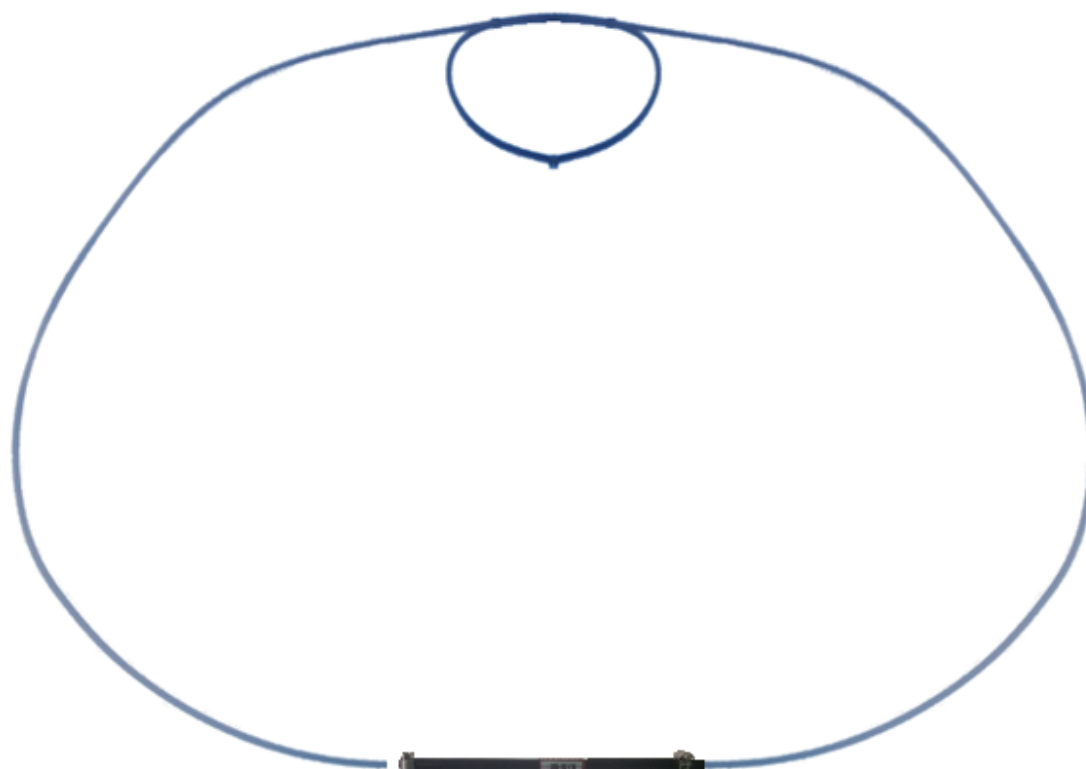

Figure 1-1 RML Antenna with VIC at base
The RML is represented in Figure 1-1 and shows the location of the VIC. Physically the RML antenna consists of two sections of LMR400. The total weight of the core system is 2.00 pounds. The antenna can be transported in an optional field bag. Deployment of the core RML antenna is accomplished in approximately 2 minutes.
- d. Locate the top Inner Loop and affix it inside and at the approximate center of the Outer Loop, as depicted in Figure 1-1.